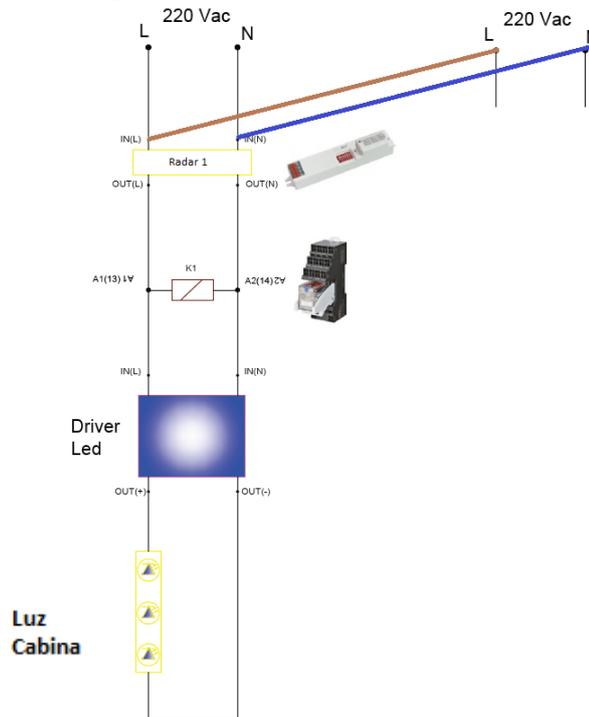

Fig. 4
- IV. From the Radar 1 input, we will take a power line (LN) to power the GERMICILED KIT (Fig. 4).